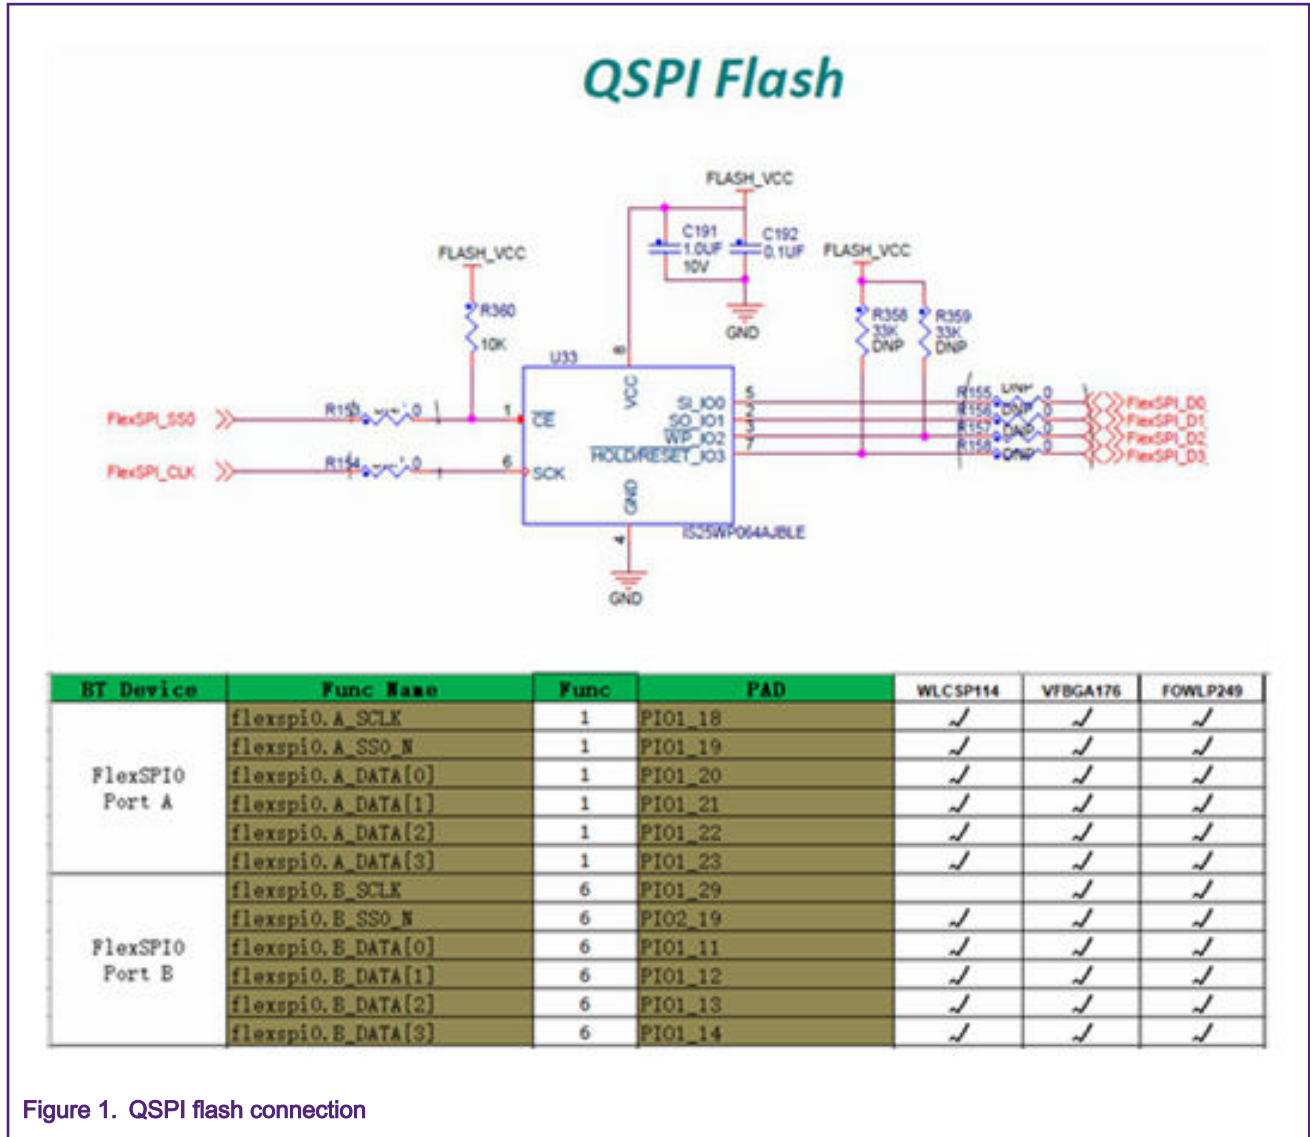

Figure 1. QSPI flash connection
- The first two ways are to connect QSPI Flash to FlexSPI Port A or Port B, as shown in Figure 1.